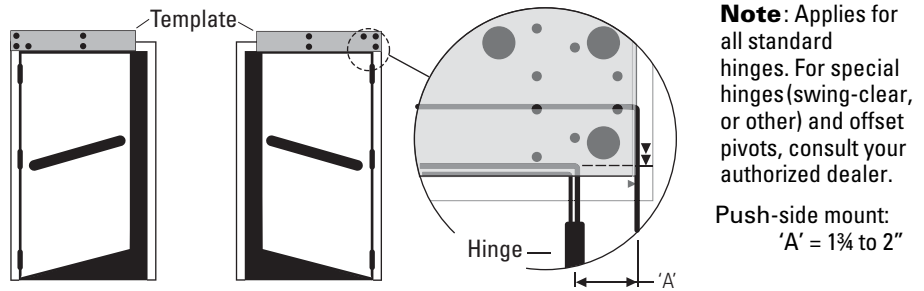

Figure 1.9 Aligning the template to the door frame
2. Make sure to place the hinge side of the template to the hinge side of the door. See Figure 1.9.
6. Peel off the adhesive strips from the back of this template and carefully place it in position on the frame by aligning the edges of template to the edges of the door frame. See Figure 1.9 on page 1-13.